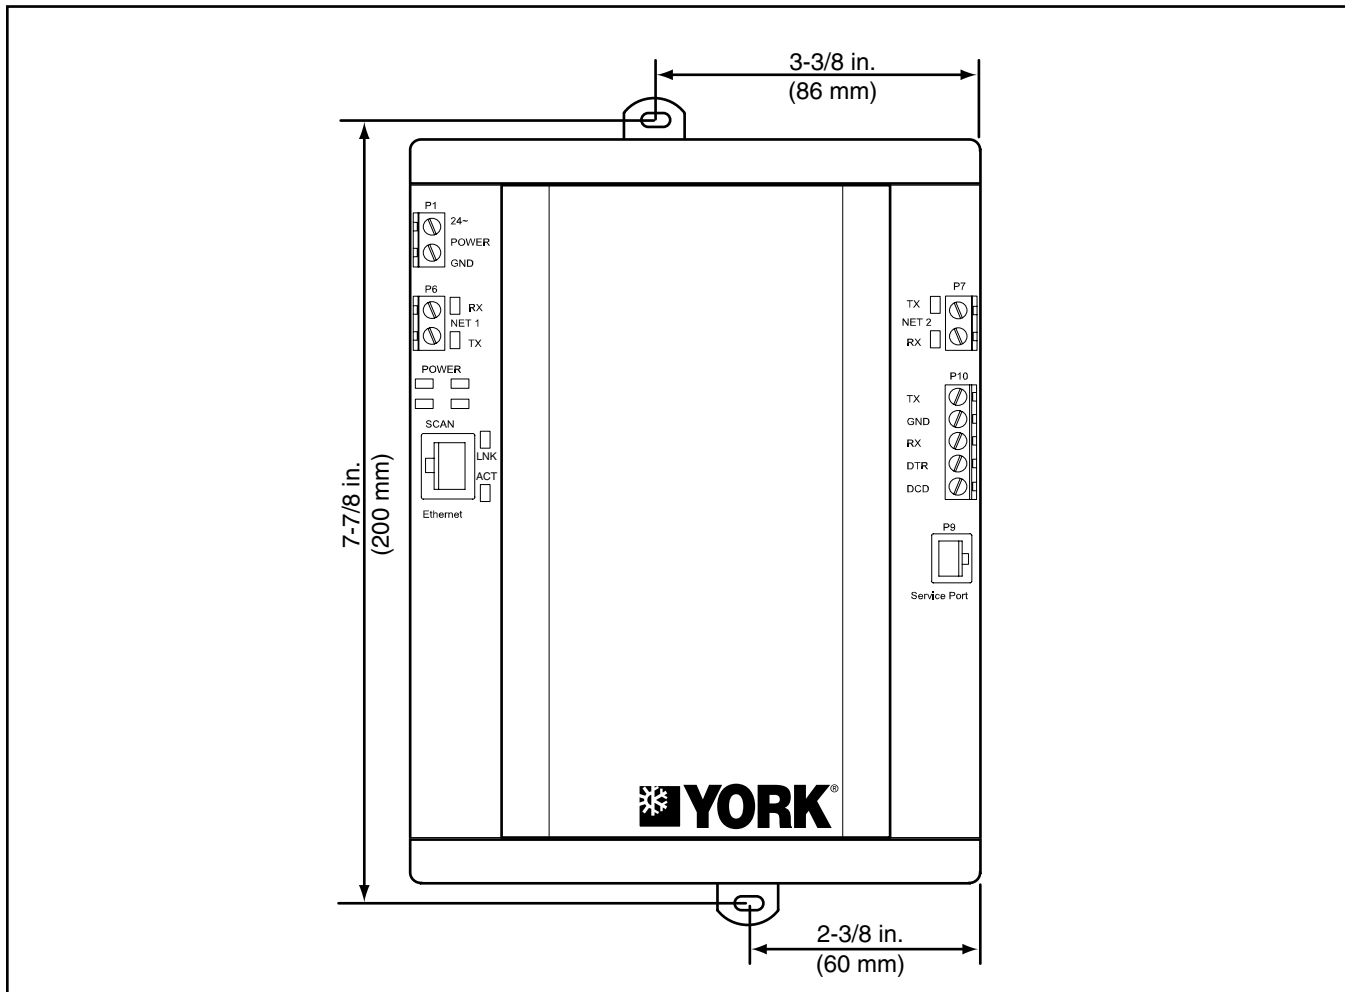

Figure 4. Dimensions
1. Use the dimensions show in Figure 4 or hold the CX-Router in position as a template to mark the mounting holes in the CX-Router.